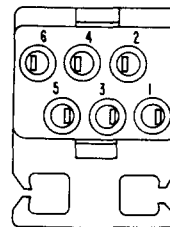

Fig. 9—509A Plug
2.08 509A: The 509A plug (Fig. 9) is a molded chaining plug of light beige insulating material, arranged for assembly of up to six blade cord-tipped conductors required for connections in multi-key telephone sets.